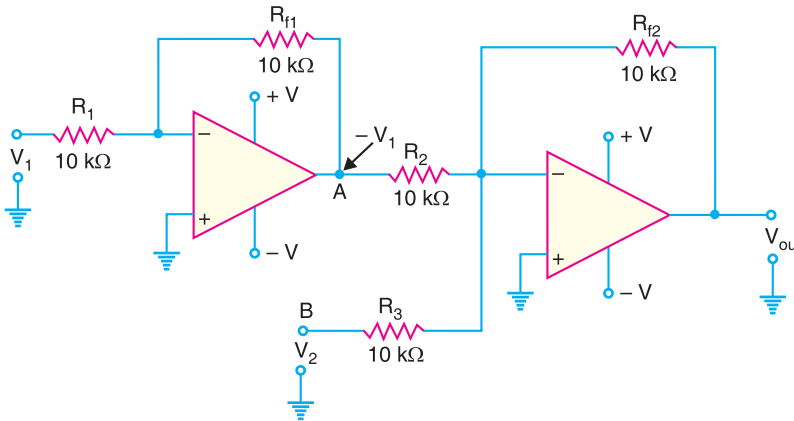

Fig. 25.78
2. As subtractor. A summing amplifier can be used to provide an output voltage that is equal to the difference of two voltages. Such a circuit is called a **subtractor** and is shown in Fig. 25.78. As we shall see, this circuit will provide an output voltage that is equal to the difference between V_1 and V_2 .